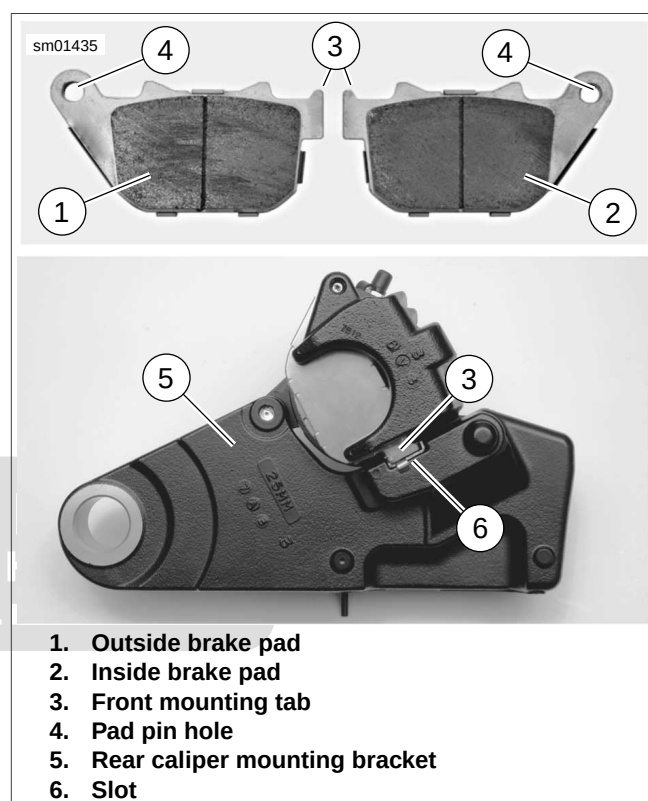

Figure 1-31. Rear Brake Pads
7. See Figure 1-31. Install **new** inside brake pad (2) using same orientation as pad previously removed. Make sure front mounting tab (3) is seated in slot (6) in caliper mounting bracket (5) and pad friction material faces brake disc.
8. While holding **new** inside pad in place, pull pad pin out and remove outside brake pad (1). Note the pad's original orientation for replacement purposes.
- See Figure 1-31. Pad front mounting tabs (3) must be fully seated in mounting bracket slot (6).